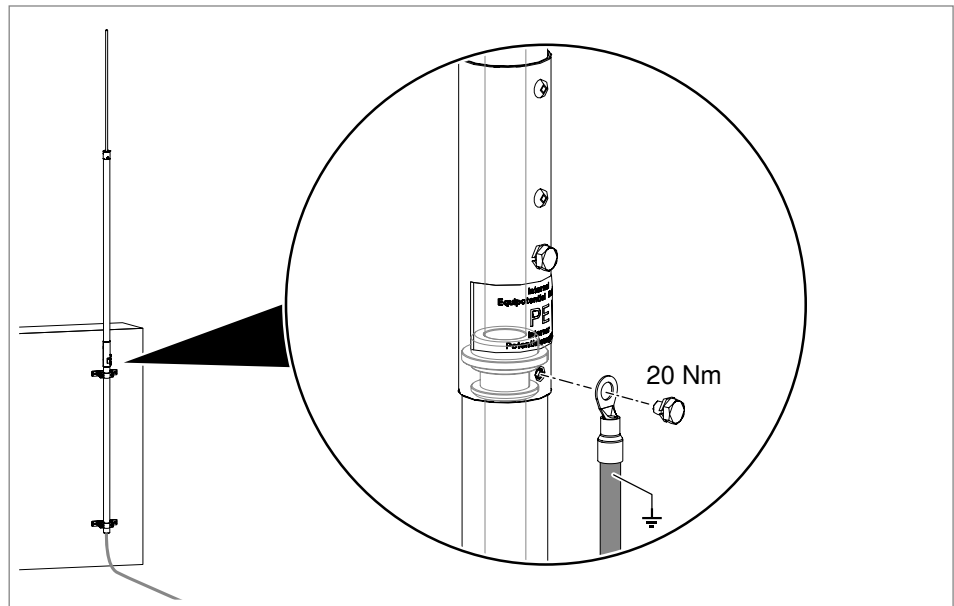

Fig. 49: Connecting the potential connection to the air-termination rod using a cable lug
1. Slacken the bottom screw as shown in Fig. 49.